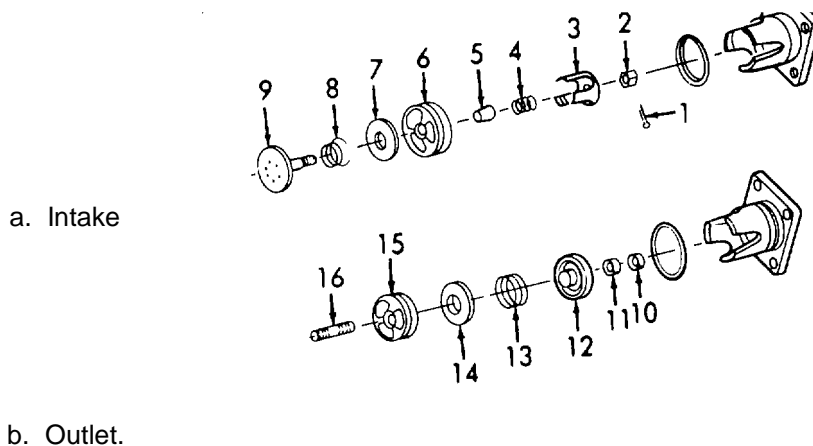

Figure 4-5. Valve Assemblies, Disassembly.
- (1) Remove plug (1) and four bolts (2).
- (2) Remove valve cover (3), O-ring (4), unloader piston (5).
- (3) Remove intake valve assembly (6) and gasket (7). Discard gasket (7).
- (4) Remove four bolts (8), valve cover (9), O-ring (10), outlet valve assembly (11), and gasket (12). Discard gasket (12).
- (5) Remove six bolts (13).
- (6) Remove head (14) and gasket (15). Discard gasket (15). Repeat for other two cylinder heads.
b. *Disassembly.* (Refer to Figure 4-5).